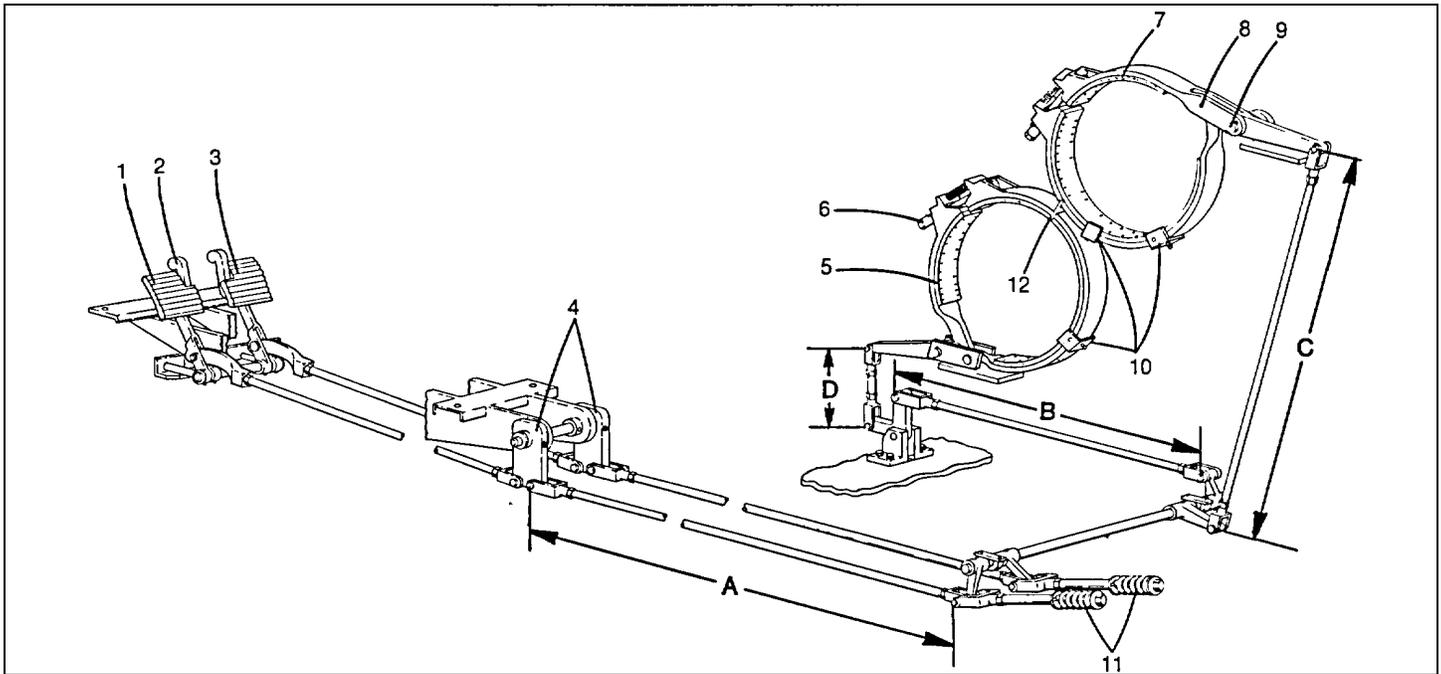

Fig. 4-7
4-13 Front And Rear Drum Brake Adjustment(Fig. 4-7)
- (c) brake band drag when powering down a load. The brake band should be centered with the brake drum. The middle area of each band is centered with the drum by means of a centering bracket (item 12 in Fig. 4-7). The rest of each band is centered with the brake drum by shimming between the dead end lug, and the dead end mounting bracket on the frame. The following shims are available for use at this point: